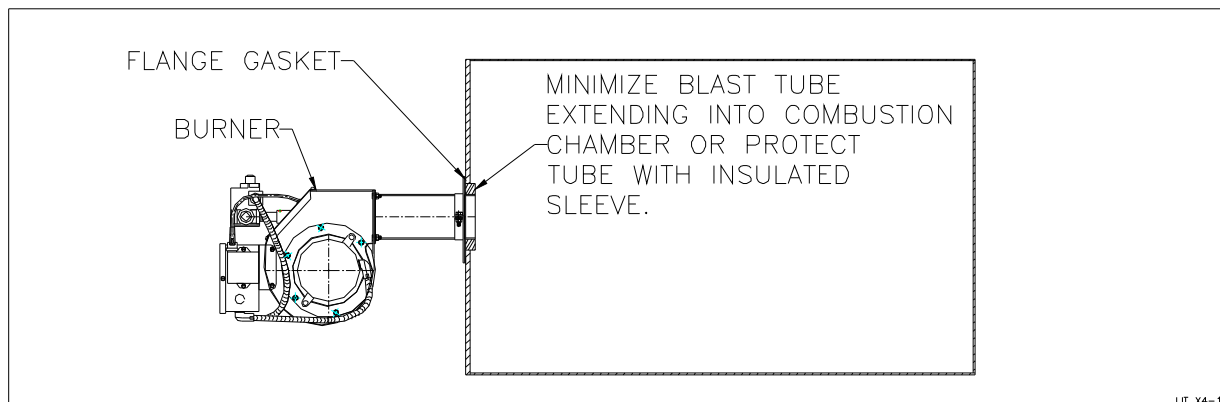

Figure 1: Mounting in Heat Exchanger
- 4.3 The burner can be mounted through a heat exchanger end wall or in the base of the boiler – see Figures 1 and 2. The opening for the burner blast tube should not be less than 4 ¼ inches in diameter to allow easy removal of the burner. The gap between the burner opening and the blast tube should be sealed with non-asbestos, high temperature rope or Ka-O-Wool. Where a new or replacement combustion chamber lining is to be used the chamber is to be built using 2300 degree F insulating firebrick or ceramic fiber blanket.